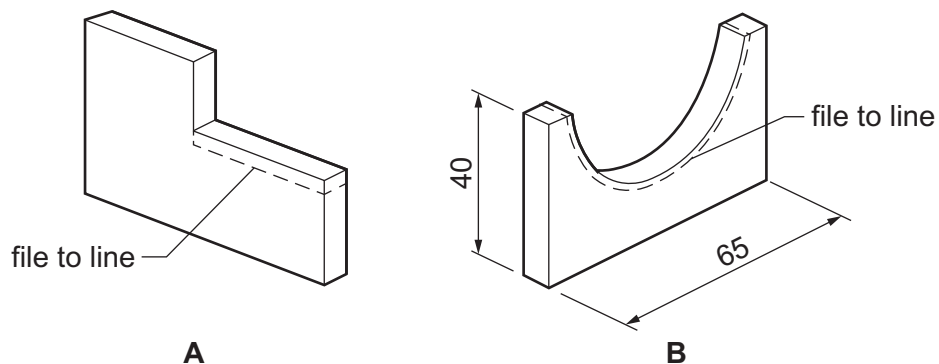

Fig. 6.1
- 6 Fig. 6.1 shows two pieces of 5 mm thick mild steel, **A** and **B**.